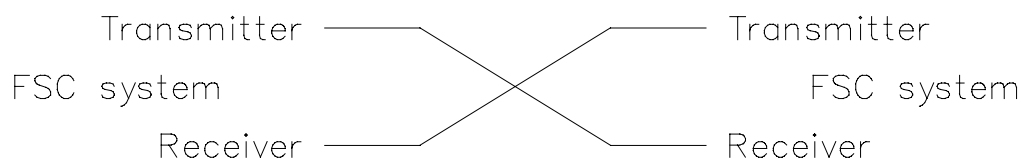

Figure 10 Connection between two FSC systems:
- **Glass fiber** (using a **G-interface**) (see Figure 10)